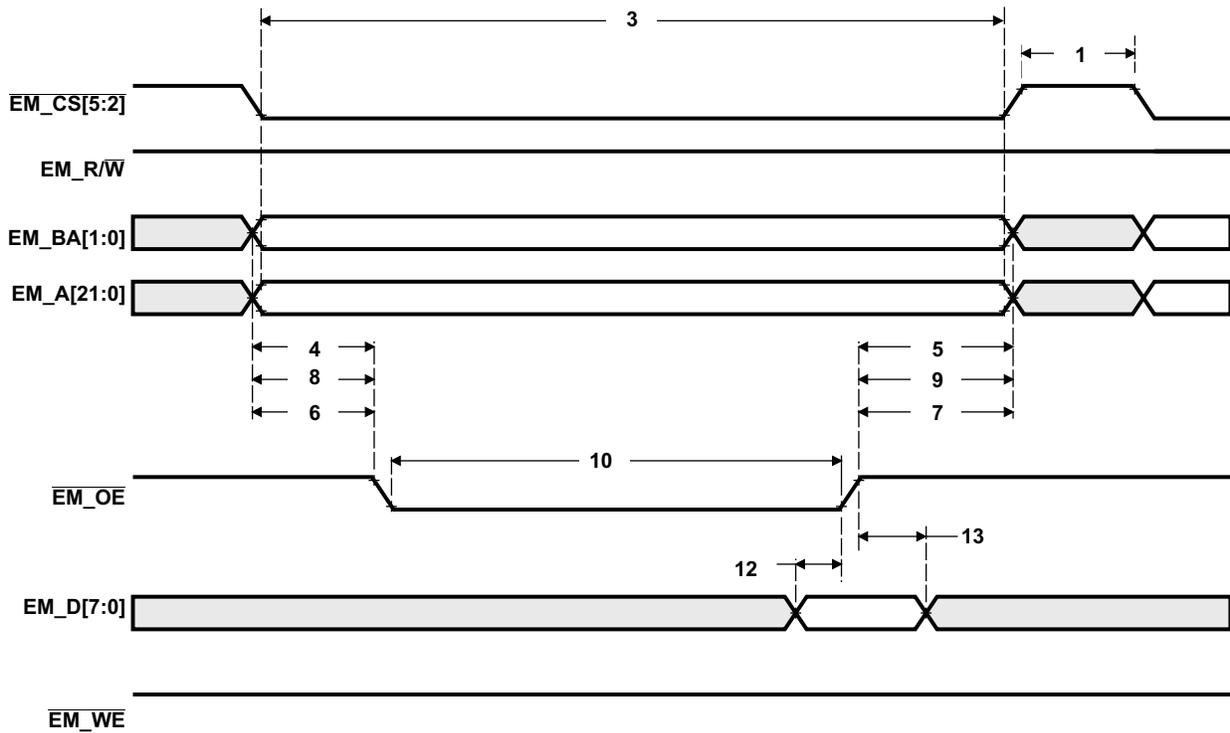
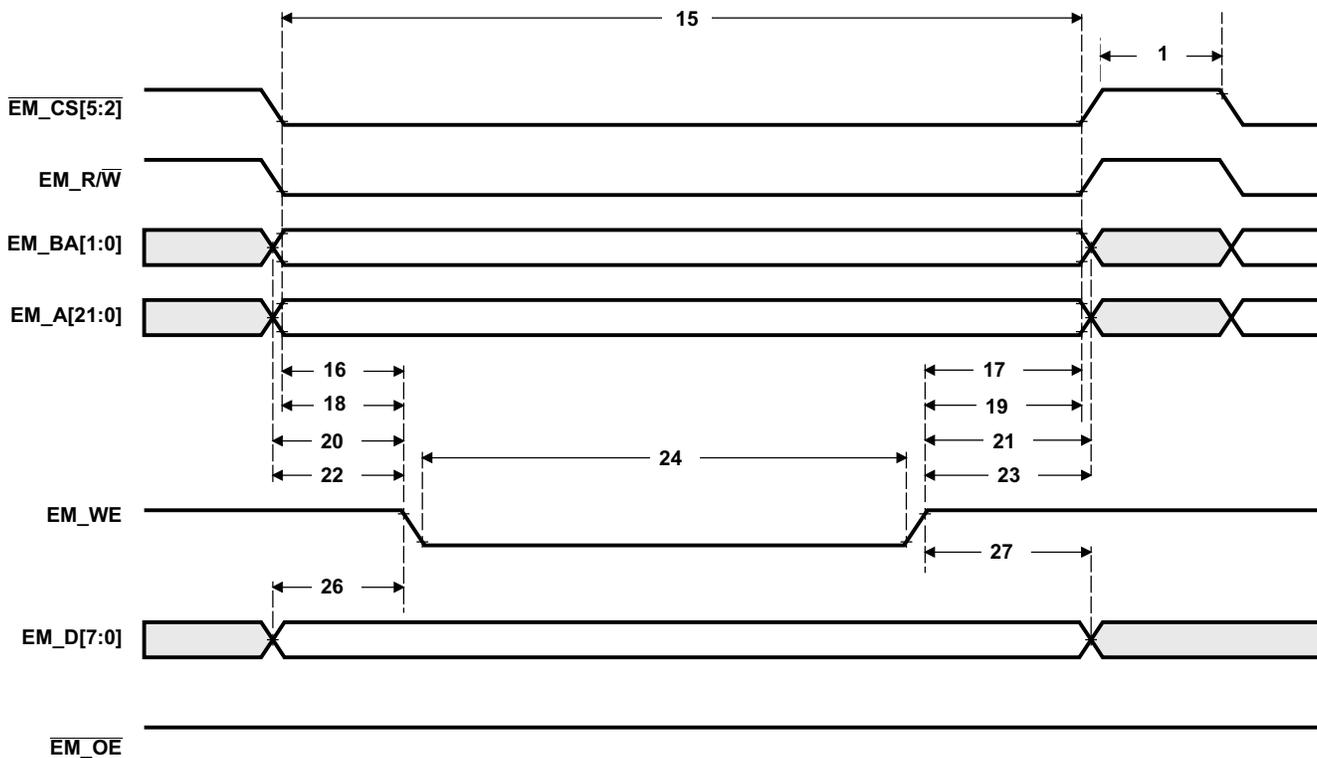

Figure 6-14. Asynchronous Memory Read Timing for EMIF
Figure 6-15. Asynchronous Memory Write Timing for EMIF
(see Figure 6-14 and Figure 6-15)
**Table 6-25. Switching Characteristics Over Recommended Operating Conditions for Asynchronous Memory Cycles for EMIFA Module(1)(2) (see Figure 6-14 and Figure 6-15)**
Table 6-25. Switching Characteristics Over Recommended Operating Conditions for Asynchronous Memory Cycles for EMIFA Module (see Figure 6-14 and Figure 6-15) (continued)